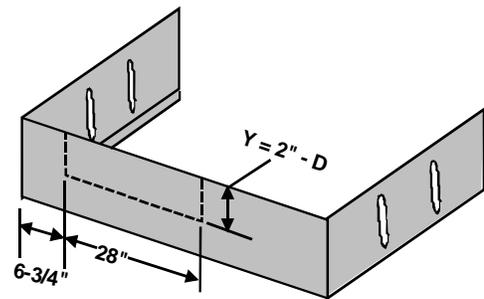

Figure 7
- Measure the actual distance "D" (Figure G) from the bottom of the chassis basepan to the finished floor to determine how far to extend the skirt below the metal front. If the distance is less than two inches, trim the skirt per Figure 7 so that it will not interfere with the gasket or block the inlet air on the front. In Figure 7, "Y" dimension equals 2" minus actual "D" dimension.